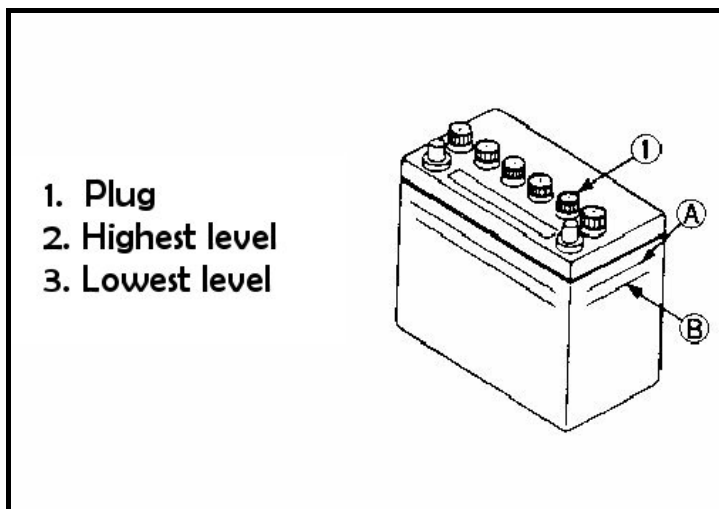
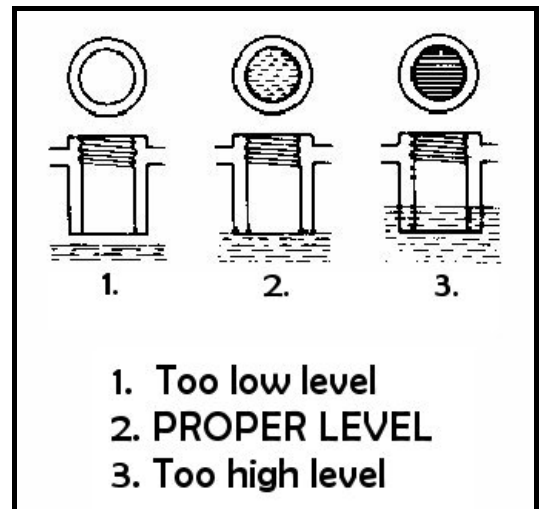

Figure 6.7 | The battery
Figure 6.8 | The level of battery acid
4. Loosen the filling plug and check the liquid level. If necessary, fill the battery up (see also Figure 6.7 and Figure 6.8)